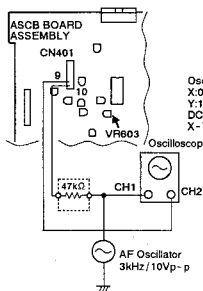

Fig. 1
4. Adjust VR603 to make the lissajous figure symmetrical with respect to the X and Y axes. (See Fig. 1 and 2.)